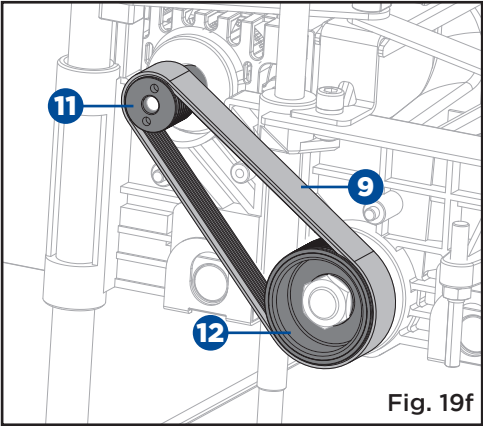

Fig. 19f
- Guide the belt to the lower pulley (12); with grooves engaged on the lower pulley, rotate the lower pulley clockwise. Keep pressure on the edge of the belt to keep the grooves engaged on the top pulley.
- All of the belt grooves should be engaged in the final position shown in Fig. 19f and the pulleys should rotate smoothly.